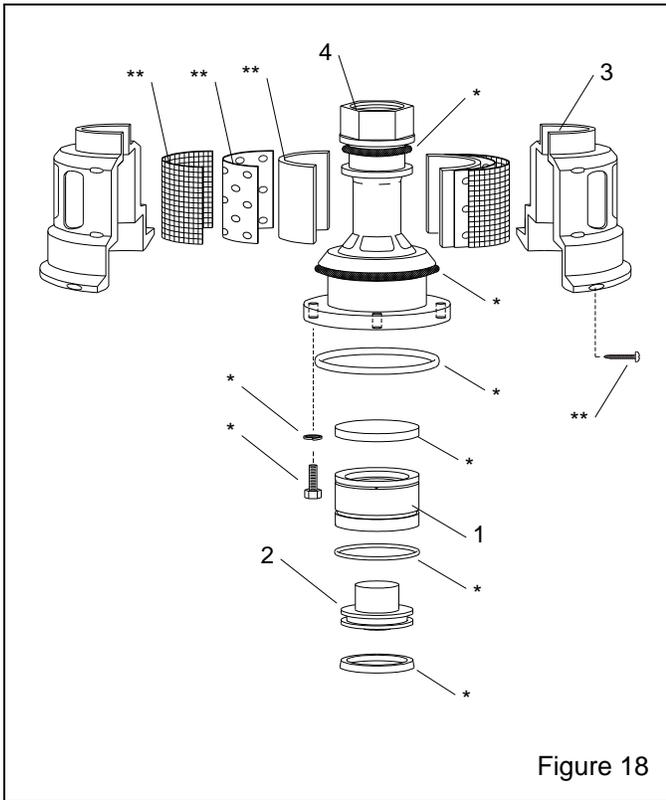

Figure 18
8.7 Millennium Valve Outlet Segment, Figure 18